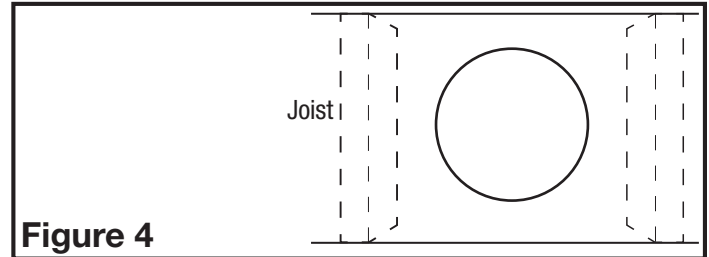

Figure 4
2. Determine the location of the round intake assembly. Cut an 8" round hole through the ceiling material being careful not to damage any electrical wires or other utilities (**Figure 4**).